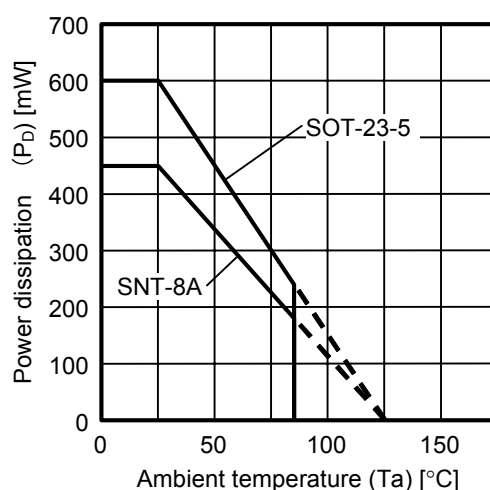

Figure 5 Power Dissipation of Package (Mounted on Board)
2. Since this IC has a built-in power MOS FET, make sure that dissipation of the power MOS FET does not exceed the allowable power dissipation of the package. (Refer to Figure 5.)